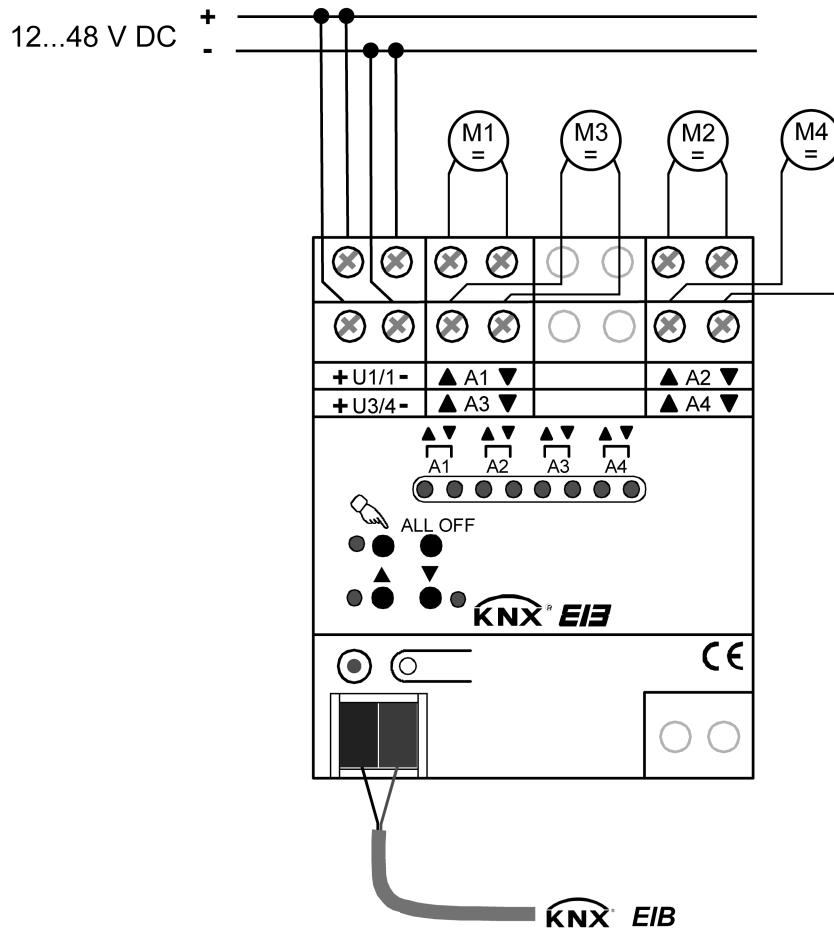

Figure 2: Electrical connection
- Make the bus connection, connection of the supply voltage and of the drive motors in accordance with connection illustration (figure 2).